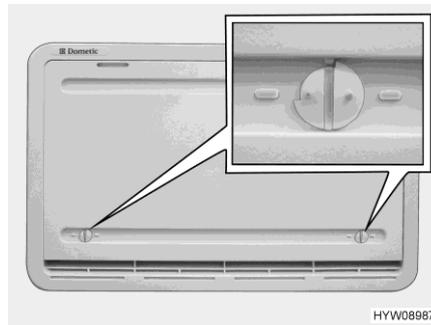

Fig. 254 Winter cover
Winter cover If the refrigerator is to be operated at low external temperatures, the manufacturer recommends the use of a winter cover (Fig. 254) for the refrigerator ventilation grills.
- Open both locks (Fig. 254) (groove in horizontal position).